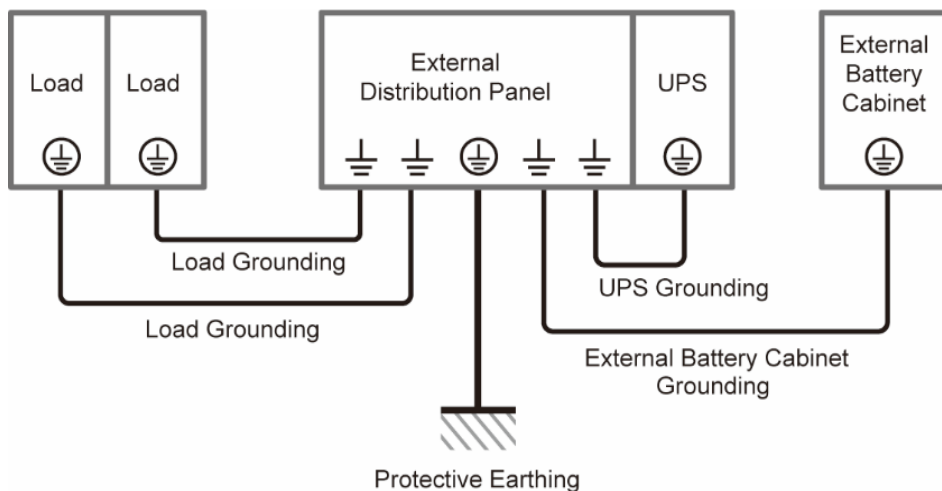
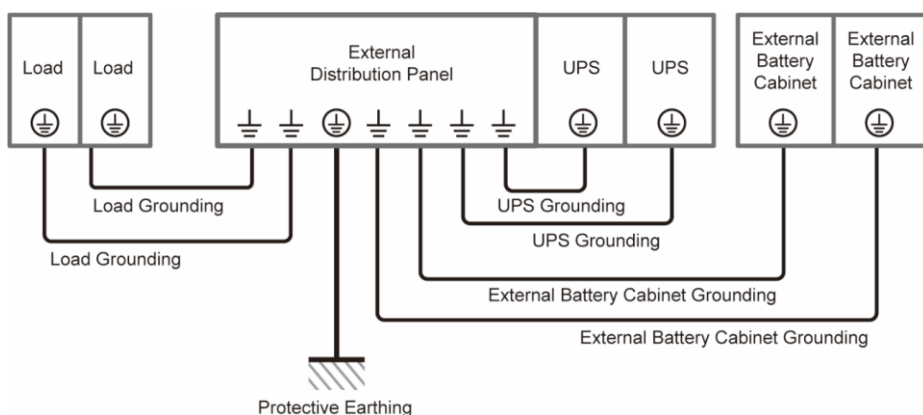

Figure 5-12: Grounding Diagram\_ Single Unit
Figure 5-15: Grounding Diagram\_ Parallel Units
Refer to **Figure 5-12** to ground the UPS, external battery cabinet(s) and connected critical loads.
- For the external battery cabinet's grounding information, please refer to **Figure 5-12** and **Figure 5-15**.